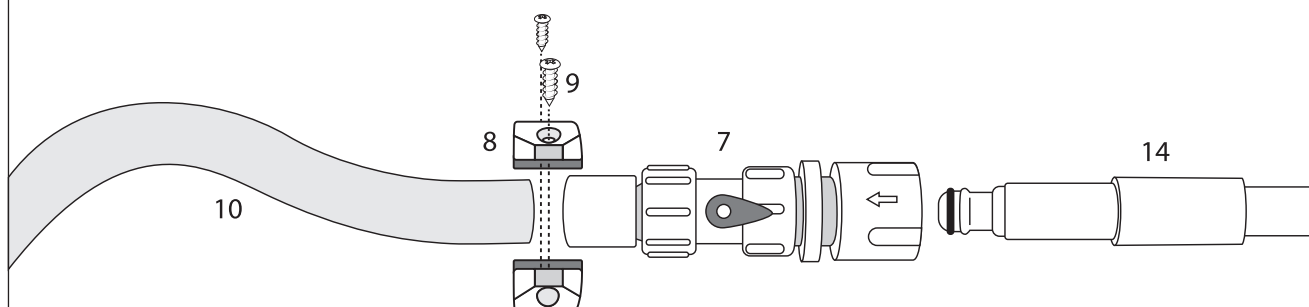

Figure 5
- 2 Push the small end of the Inlet Push-in Connector (14) into the Hose Connector Valve Assembly (7) (Figure 5). This is your **INLET ADAPTER**.
- 3 Uncoil the hose (10) from previous hose assembly (Figure 2) and remove all twists. Using the Hose Connector Clamp (8) and Screws (9) (Figure 5), attach end of the hose to the **INLET ADAPTER** from Step 2.